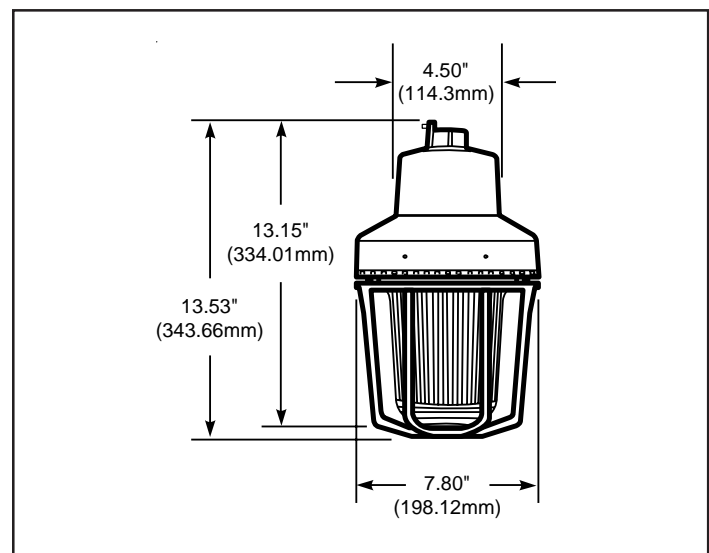

Figure 1. Detail of Pendant Mounting
- a. **Pendant Mount Models** (Figures 1 and 4): Unscrew the globe assembly from the mounting hood and set aside. Install explosion-proof hanger